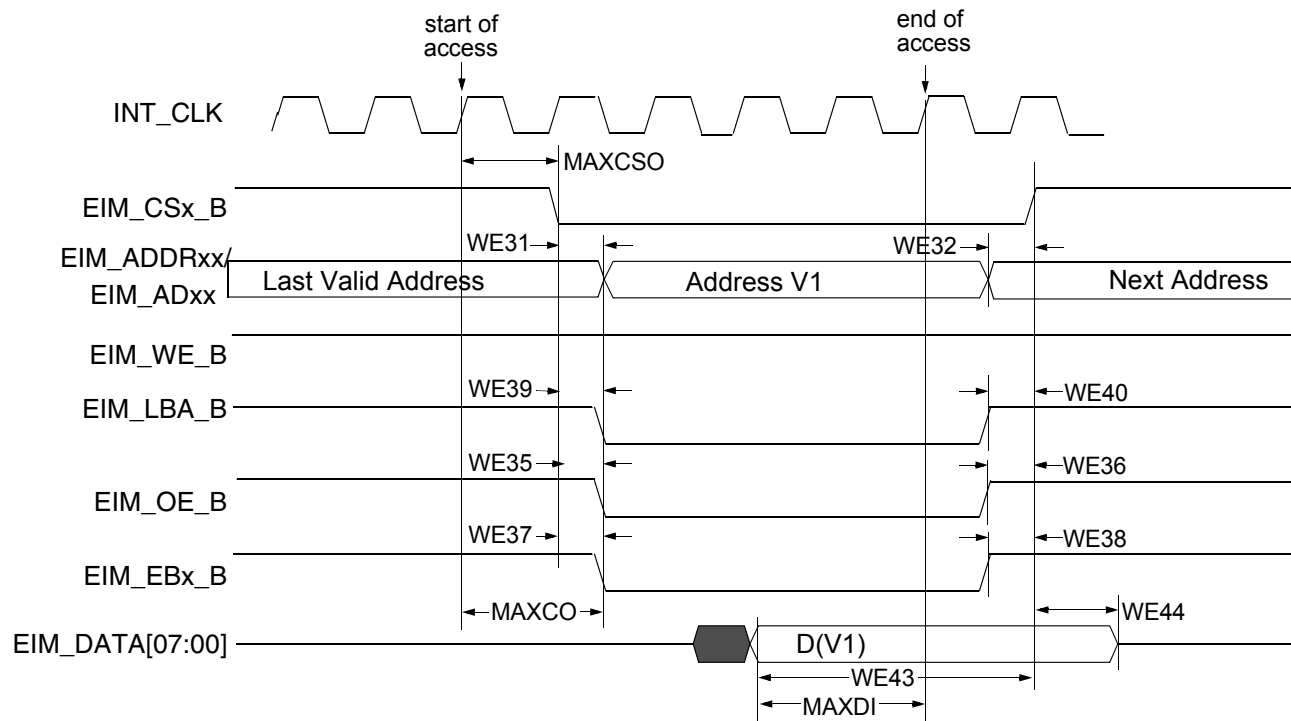

Figure 18. Asynchronous Memory Read Access (RWSC = 5)
Figure 18 through Figure 22 and Table 42 provide timing parameters relative to the chip select (CS) state for asynchronous and DTACK EIM accesses with corresponding EIM bit fields and the timing parameters mentioned above.
Asynchronous read and write access length in cycles may vary from what is shown in Figure 18 through Figure 21 as RWSC, OEN & CSN is configured differently. See the i.MX 6Dual/6Quad reference manual (IMX6DQRM) for the EIM programming model.